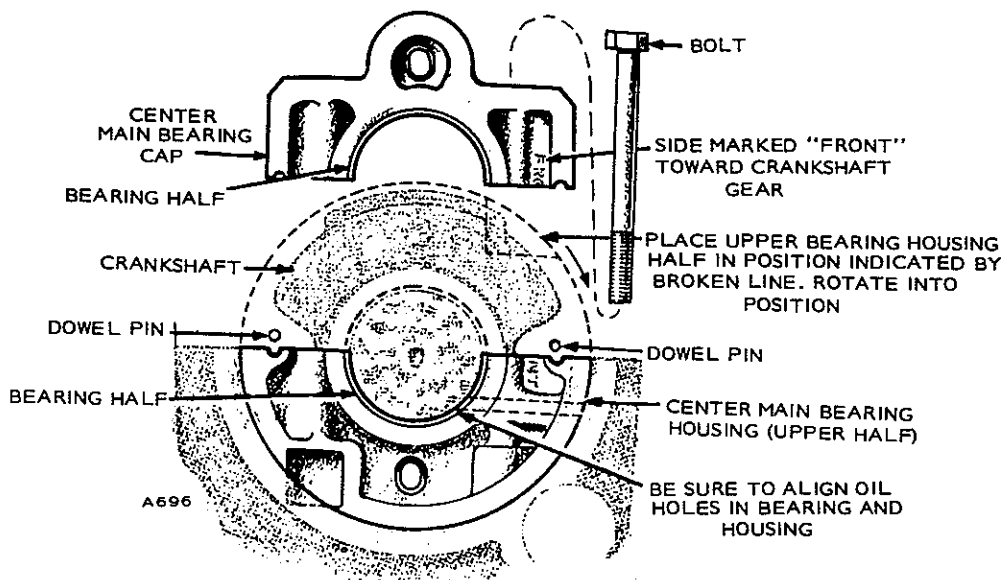

FIGURE 17-16. CENTER MAIN BEARING INSTALLATION—J-SERIES
5. *Four Cylinder J-Series Engines Only:* Set upper half of the center main bearing (Figure 17-16) on crankshaft and rotate it into place. The side of the bearing marked front must be toward the crankshaft gear. Set the two position dowels on the upper bearing mount. Install the center main bearing cap and torque the bolts to 97 to 102 ft. lbs. (132 to 138 N•m).